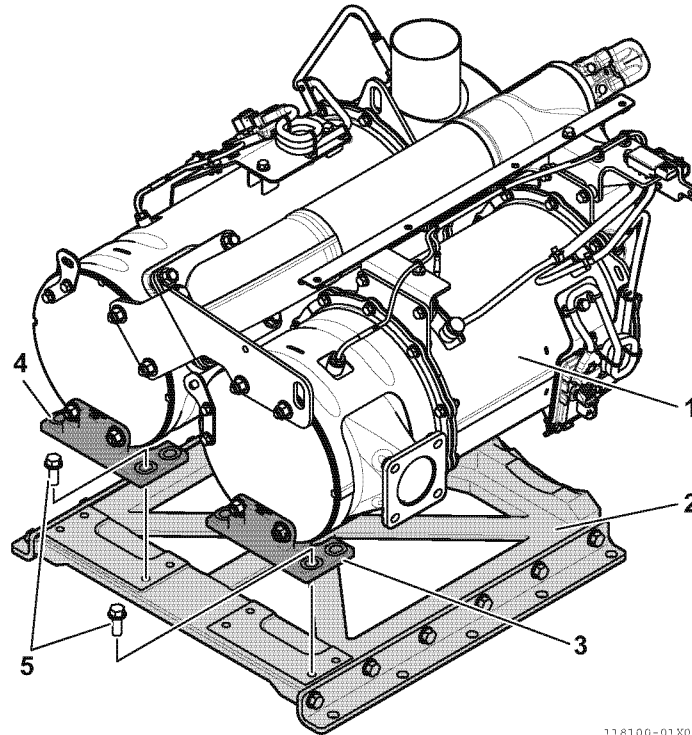

Fig.25-59
- Mount the DPF and SCR unit (1, Fig.25-59) to the DPF-SCR bracket (2, Fig.25-59), then loosely tighten the DPF bracket (3, Fig.25-59) and SCR bracket (4, Fig.25-59) to the DPF-SCR bracket using the bolts (5, Fig.25-59).